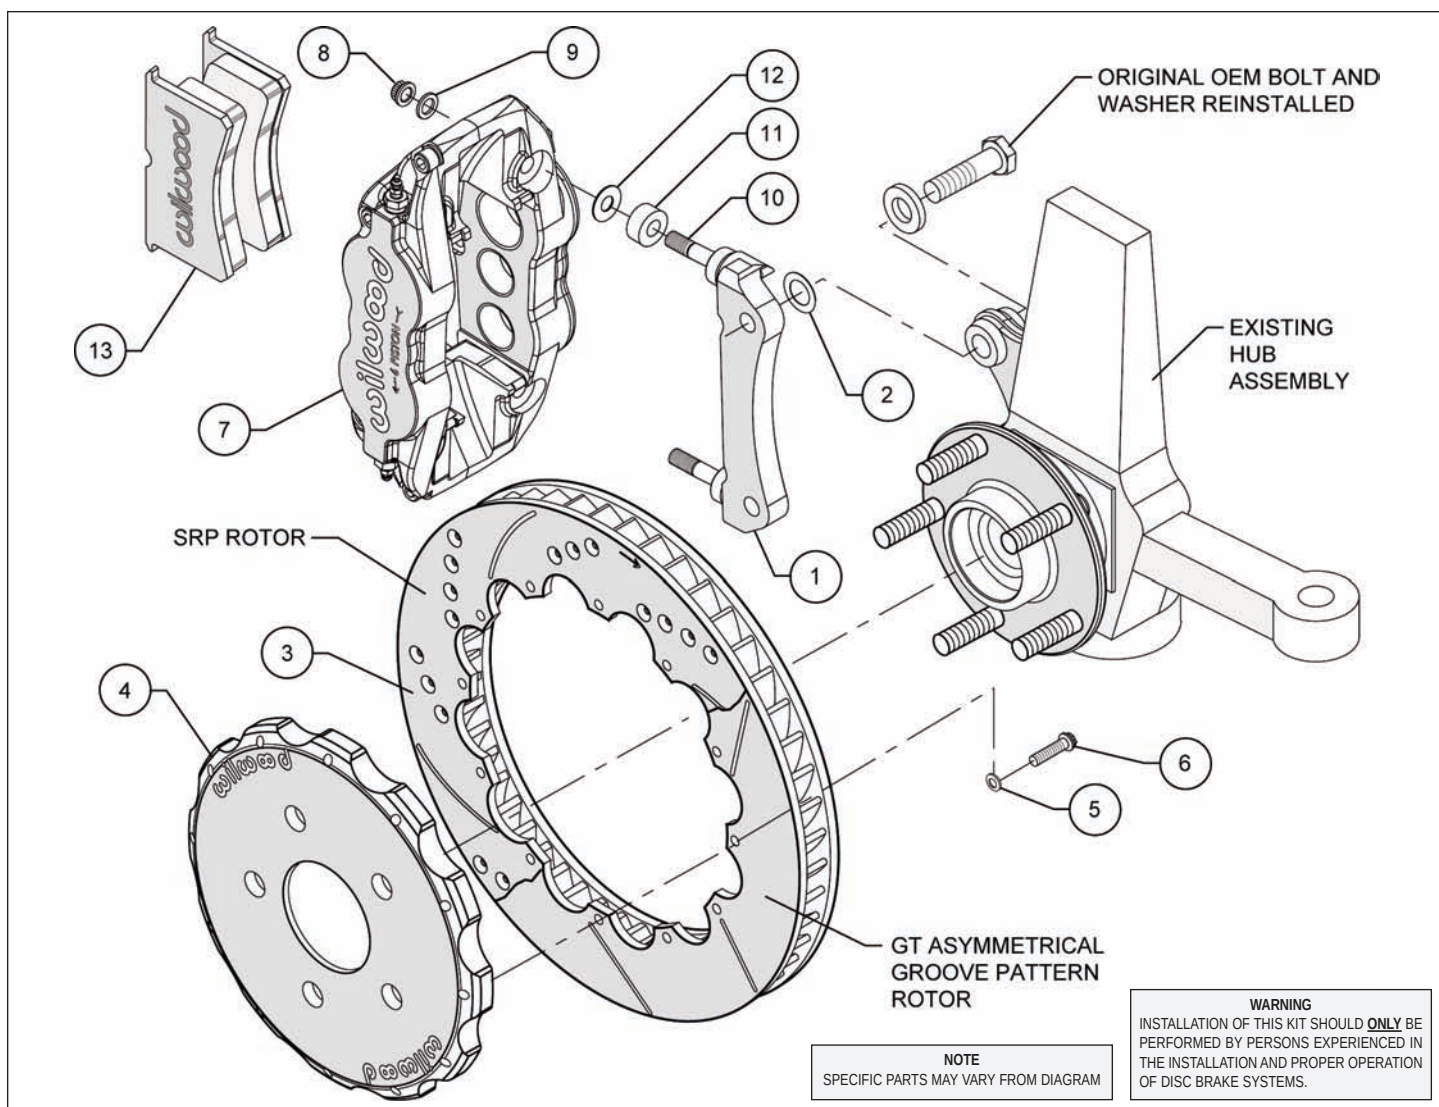
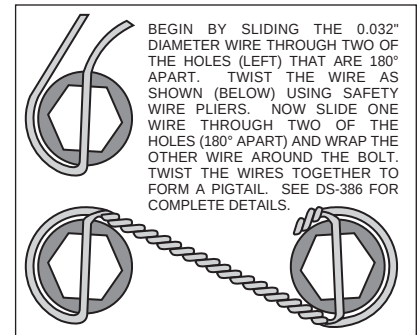

Figure 1. Typical Installation Configuration
Figure 3. Safety Wire Diagram
- Assemble the rotor (3) to the hat (4) with the bolts (6) and washers (5) provided in the configuration pictured in Figure 1. Using an alternating sequence, apply red *Loctite*® 271 to the threads and torque bolts to 155 in-lb. For an added measure of security, the bolts may be safety wired using standard 0.032 inch diameter stainless steel safety wire as shown in Figure 3. Please refer to Wilwood's data sheet DS-386 (available at www.wilwood.com/Pdf/DataSheets/ds386.pdf) for complete safety wire installation instructions.